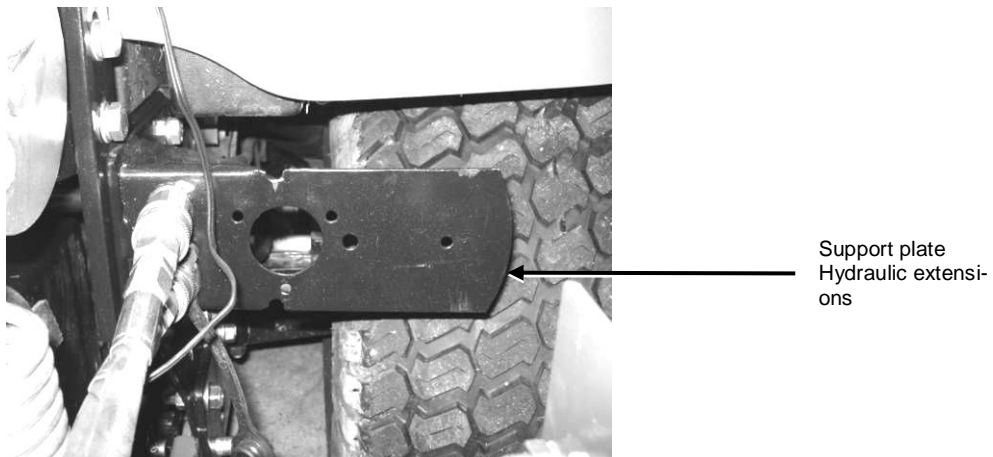

Fig. 14: Attach the hydraulic extension to the support plate
5. Fasten the hydraulic extensions with the quick-lock couplings to the support plate provided for this purpose (see Fig. 14).